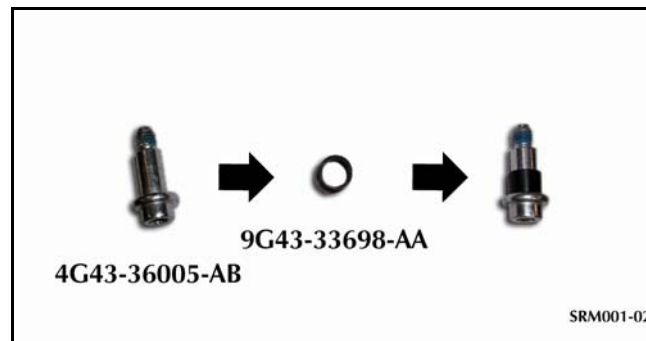

Figure 3
5. Install a bush (Part Number 9G43-33698-AA) onto the airbag attachment screw (refer to Figures 3).